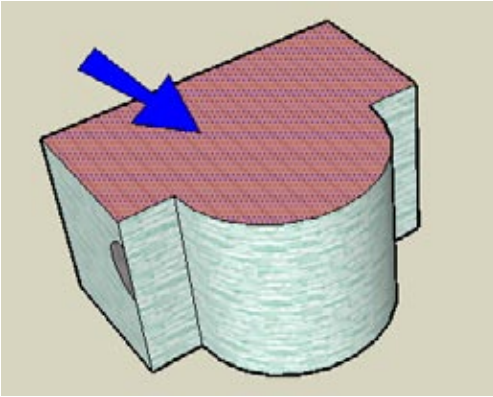

Figure 2-3
- 1. The path will go around the entire building, so select the top face (Figure 2-3). The edges surrounding this face compose the Follow Me path.